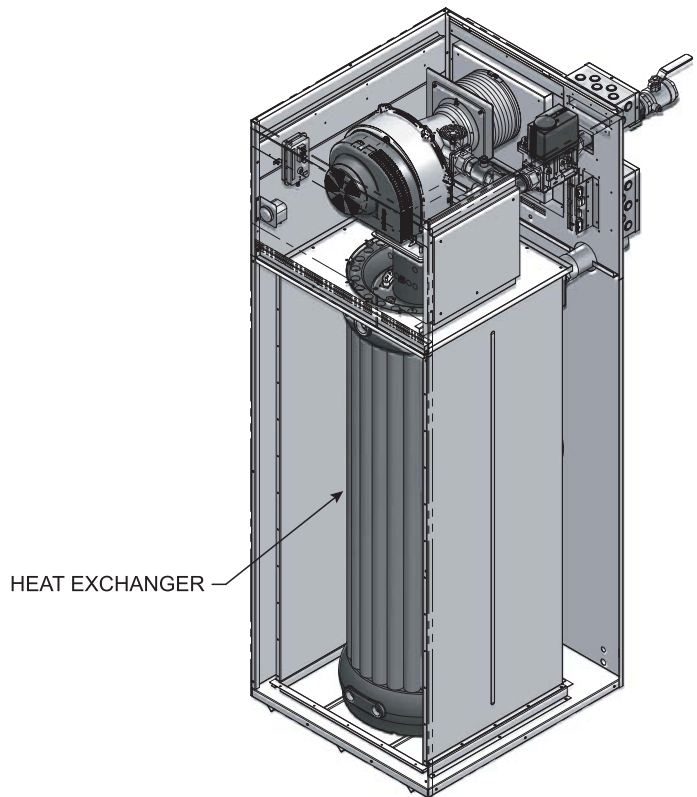

Figure 10-3 Location of the Heat Exchanger Inside Jacket
4. Remove the inner jacket panel (see FIG. 10-3).